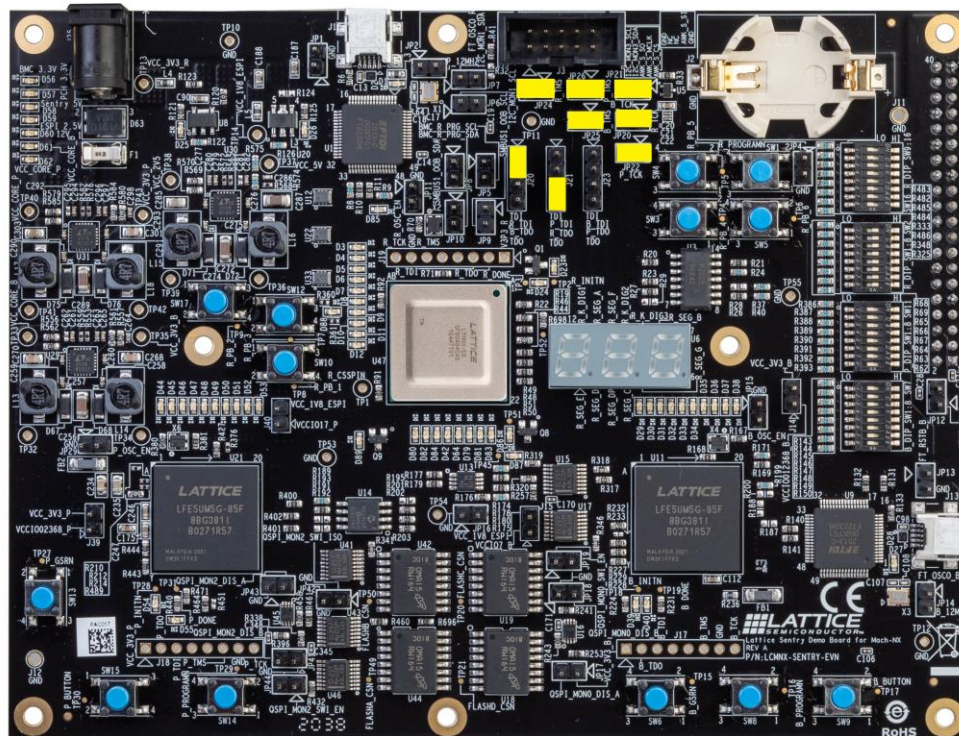

Figure 4.4. Mach-NX Jumper Settings
1. Connect the Mach-NX to the JTAG chain. Refer to Table 4.2 or Figure 4.4.